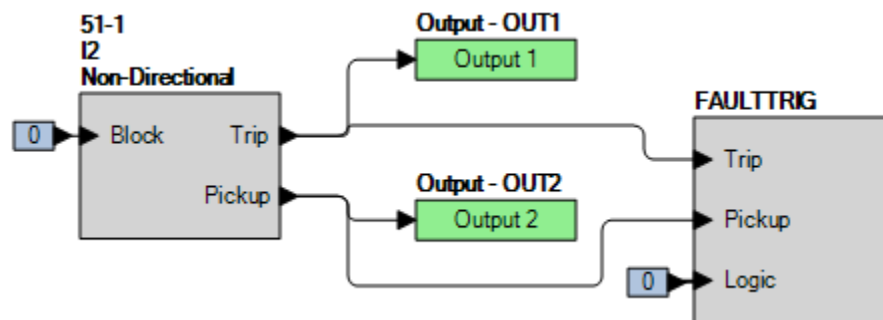

Figure 65-3. BESTlogicP*lus* Settings (I2 Mode)
Step 2: Use BESTCOMSP*lus* to configure the BESTlogicP*lus* programmable logic shown in Figure 65-3.
Step 4: Prepare to monitor the 51-1 function operation. Operation can be verified by monitoring OUT2 (see Figure 65-3).